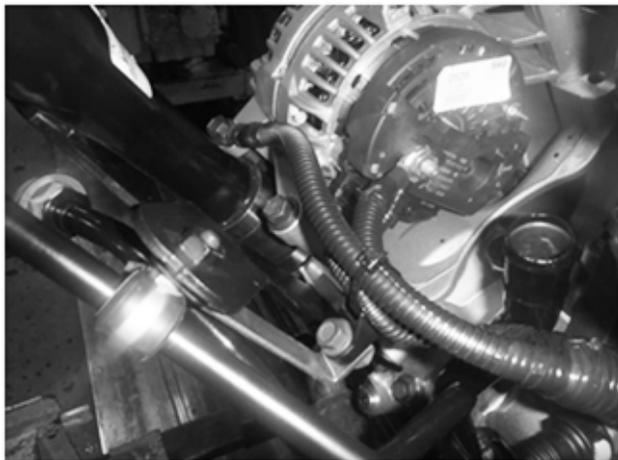

Figure 15
16. Reinstall power cables of alternator harness to positive terminal of alternator. Tighten nut to specification. Install nut (Figure 15).